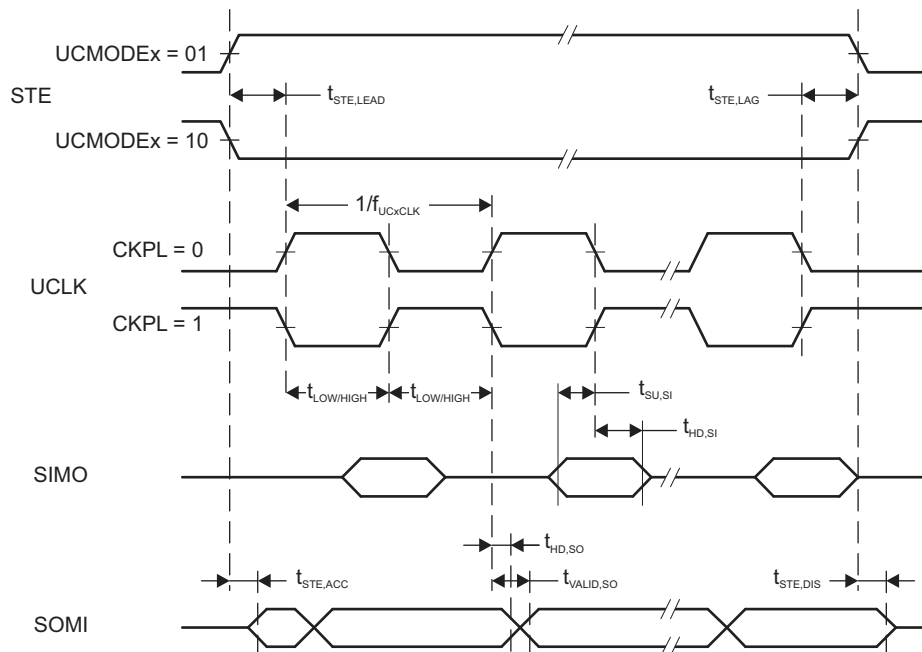
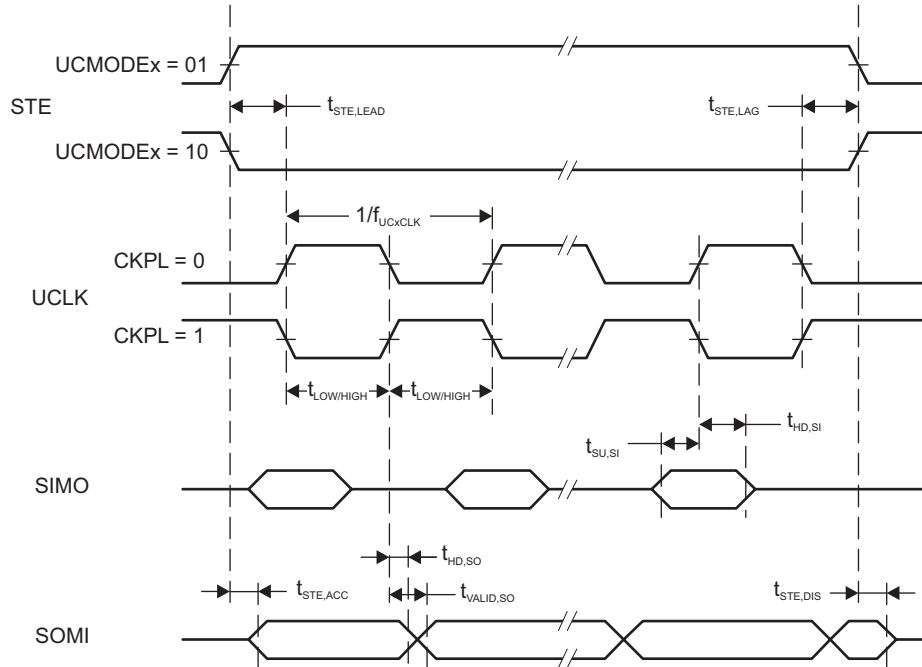

Figure 8-12. SPI Slave Mode, CKPH = 0
Figure 8-13. SPI Slave Mode, CKPH = 1
- (2) Specifies the time to drive the next valid data to the SOMI output after the output changing UCLK clock edge. Refer to the timing diagrams in Figure 8-12 and Figure 8-13.
- (3) Specifies how long data on the SOMI output is valid after the output changing UCLK clock edge. Refer to the timing diagrams in Figure 8-12 and Figure 8-13.